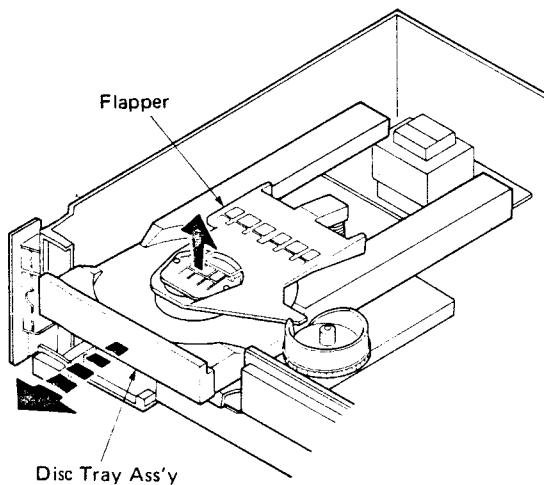

Fig. 2
- Lift Flapper as shown in Fig. 2, and pull Disc Tray Ass'y forward.